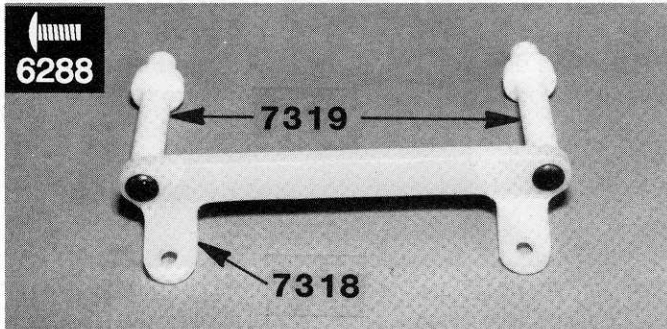

Fig. 32
□ **Figs. 32 & 33** Install the two #7319 front body mounts (from Bag 7-5) to the #7318 body mount brace with the two 4-40 x 1/4" round button head screws. Align the small body clip holes in the ends of the body mounts so they point to the left and right. Tighten screws, but not too tight. Install the brace onto the front bulkhead with two 4-40 x 3/8" SHCS screws as shown. Do not overtighten screws.